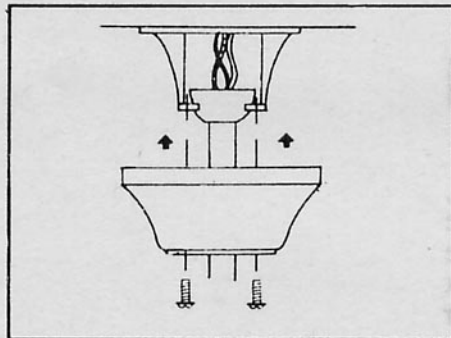

FIG. 14
Step 1. Slide the canopy up to ceiling as shown in Figure 14. Make sure you place the wires safely into outlet box. Secure the canopy to the hanger bracket with the two screws provided on the bracket.